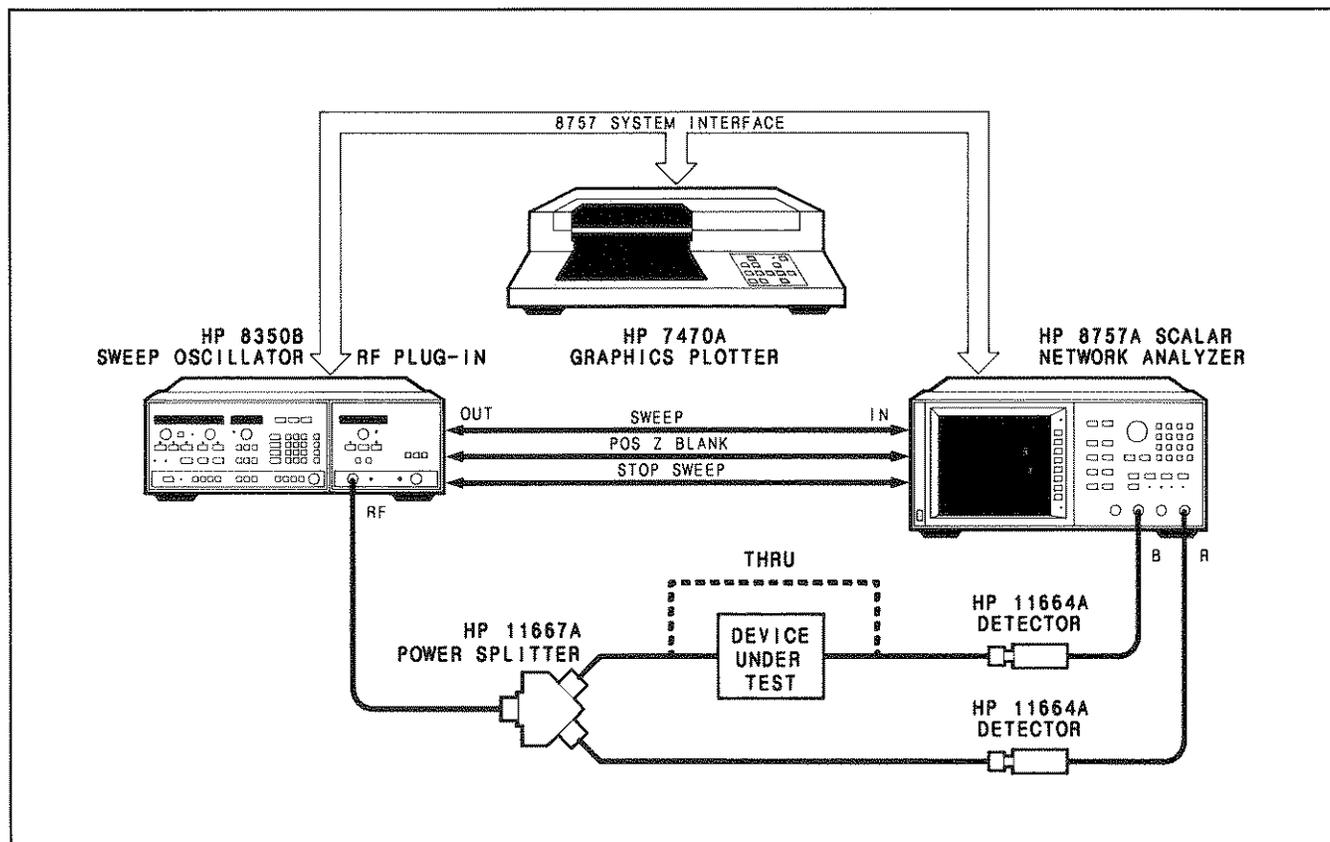

Figure 23. Transmission-Only Ratio Measurement Setup
The setup shown in Figure 23 adds a power splitter and a detector to obtain power for the R (reference) input. Select [MEAS] [B/R] to view the response. This ratio technique provides an improvement in effective source match characteristics of the setup by removing stimulus power variations common to both the reference (R) and test (B) inputs. This technique is especially appropriate for measurement of low insertion loss devices and for devices with poor input match. Source match can also be improved by leveling the source externally or by isolating the source with an attenuator or directional bridge.
Connect instruments as shown in Figure 23.
Connect ratio setup shown in Figure 23.